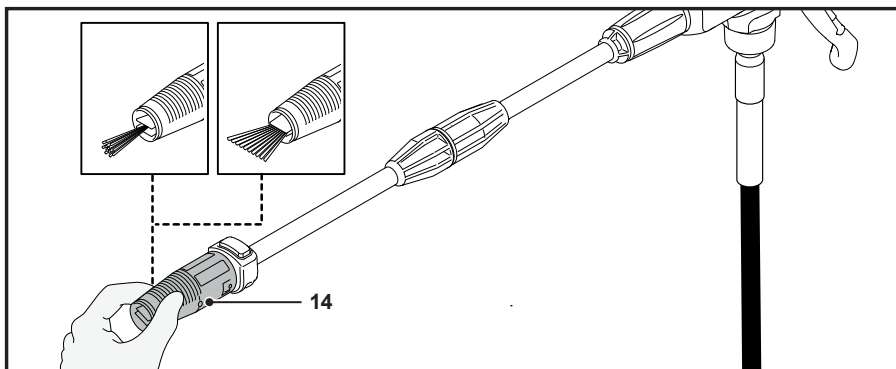

Fig. 11
When using the fan stream nozzle (14), adjust the width of the spray pattern by rotating it (Fig. 11).
- Turn the fan stream nozzle (14) anticlockwise for a narrow, concentrated stream.
- Turn the fan stream nozzle (14) clockwise for a wider, fan-shaped spray.